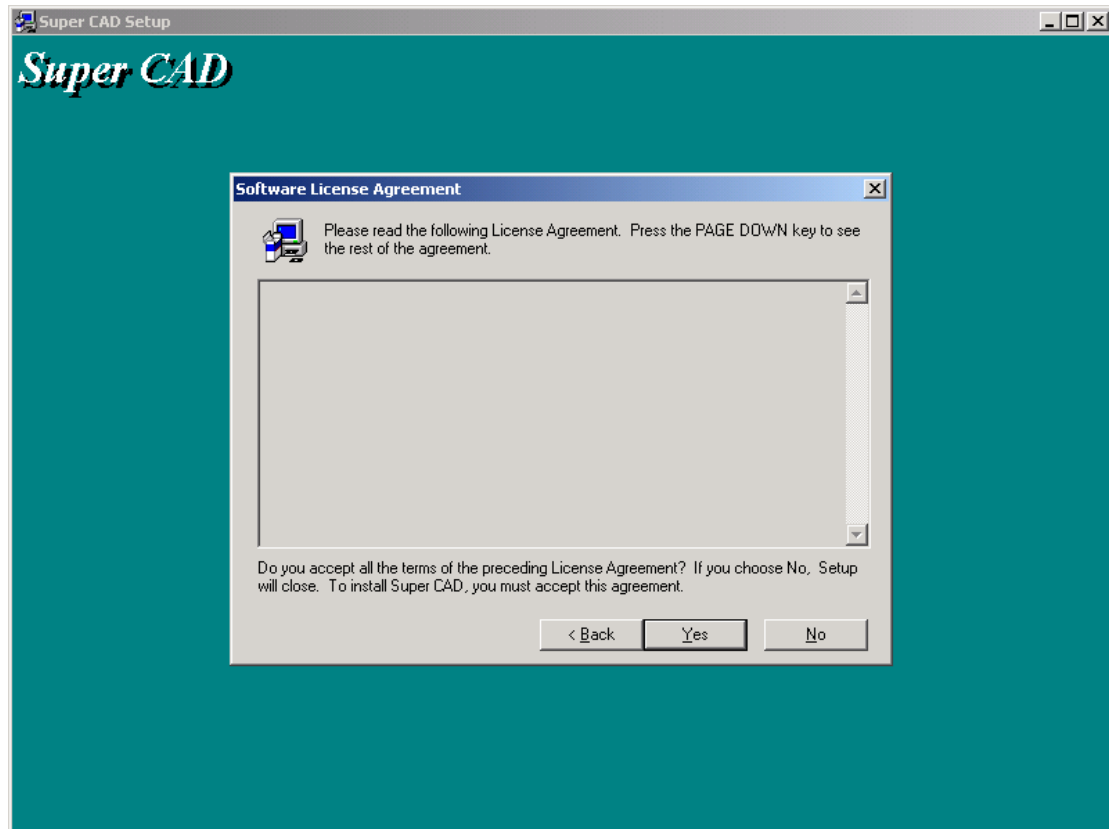

Fig 1.2 License Window
- Click NEXT to enter the next step of installation. The License Agreement will be displayed. Press [Page Down] to read the contents of the agreement. The License Window will be shown as in Fig. 1.2.